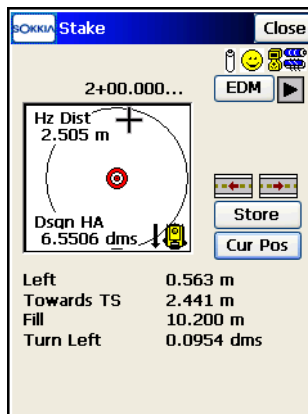

Figure 9-40. TS Stakeout Road
- For TS: sight the prism. On the *Stake* screen, tap the **Cur Pos** button to measure the target. Tap the **EDM** button to select distance measurement mode: *Coarse*, *Fine* or *Coarse Tracking*. Once the position is close enough to the desired one, tap **Meas** to store it. Tap the  /  button to retreat/advance the station by the specified Station Interval, for staking out at the previous/next station, respectively (Figure 9-40).